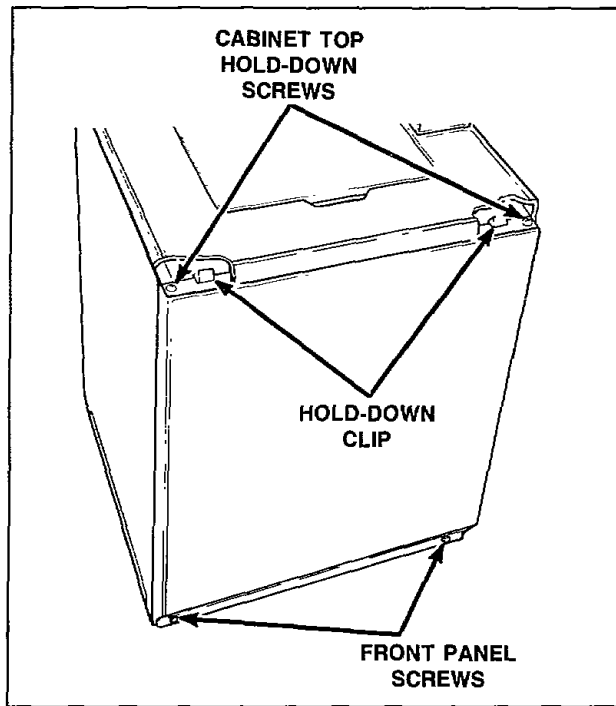

Figure 20
15. **FRONT PANEL** (Refer to Figure 20)